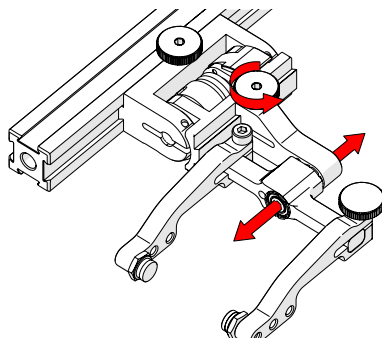

Fig. 132 - Adjust swing arm
3. Use the swing arm knob to position the swing arm (Fig. 132).